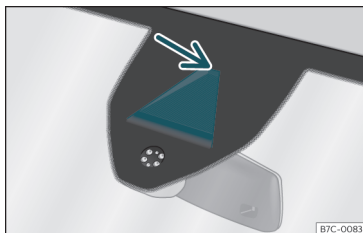

Fig. 217 On the windscreen: field of vision of the Lane Assist system camera.
- Before starting a journey, verify that the field of vision of the camera is not covered >>> Fig. 217.